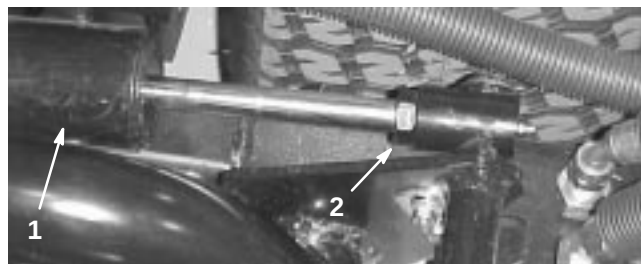

Figure 14
3. Start the engine, raise the decks, and check to make sure that the clearance between the wear strap on the top of the rear cutting unit wear bar and the bumper strap is 0.02–0.10 in. (0.51–2.54 mm) (Fig. 13). If the clearance is not in this range, adjust the rear cylinder to attain clearance. To adjust the cylinder, lower the cutting units and back off the jam nut on the cylinder (Fig. 14). Grasp the cylinder rod close to the nut with a pliers and rotate the rod. Raise the cutting units and check the clearance. Repeat the procedure if required. Tighten the clevis jam nut.